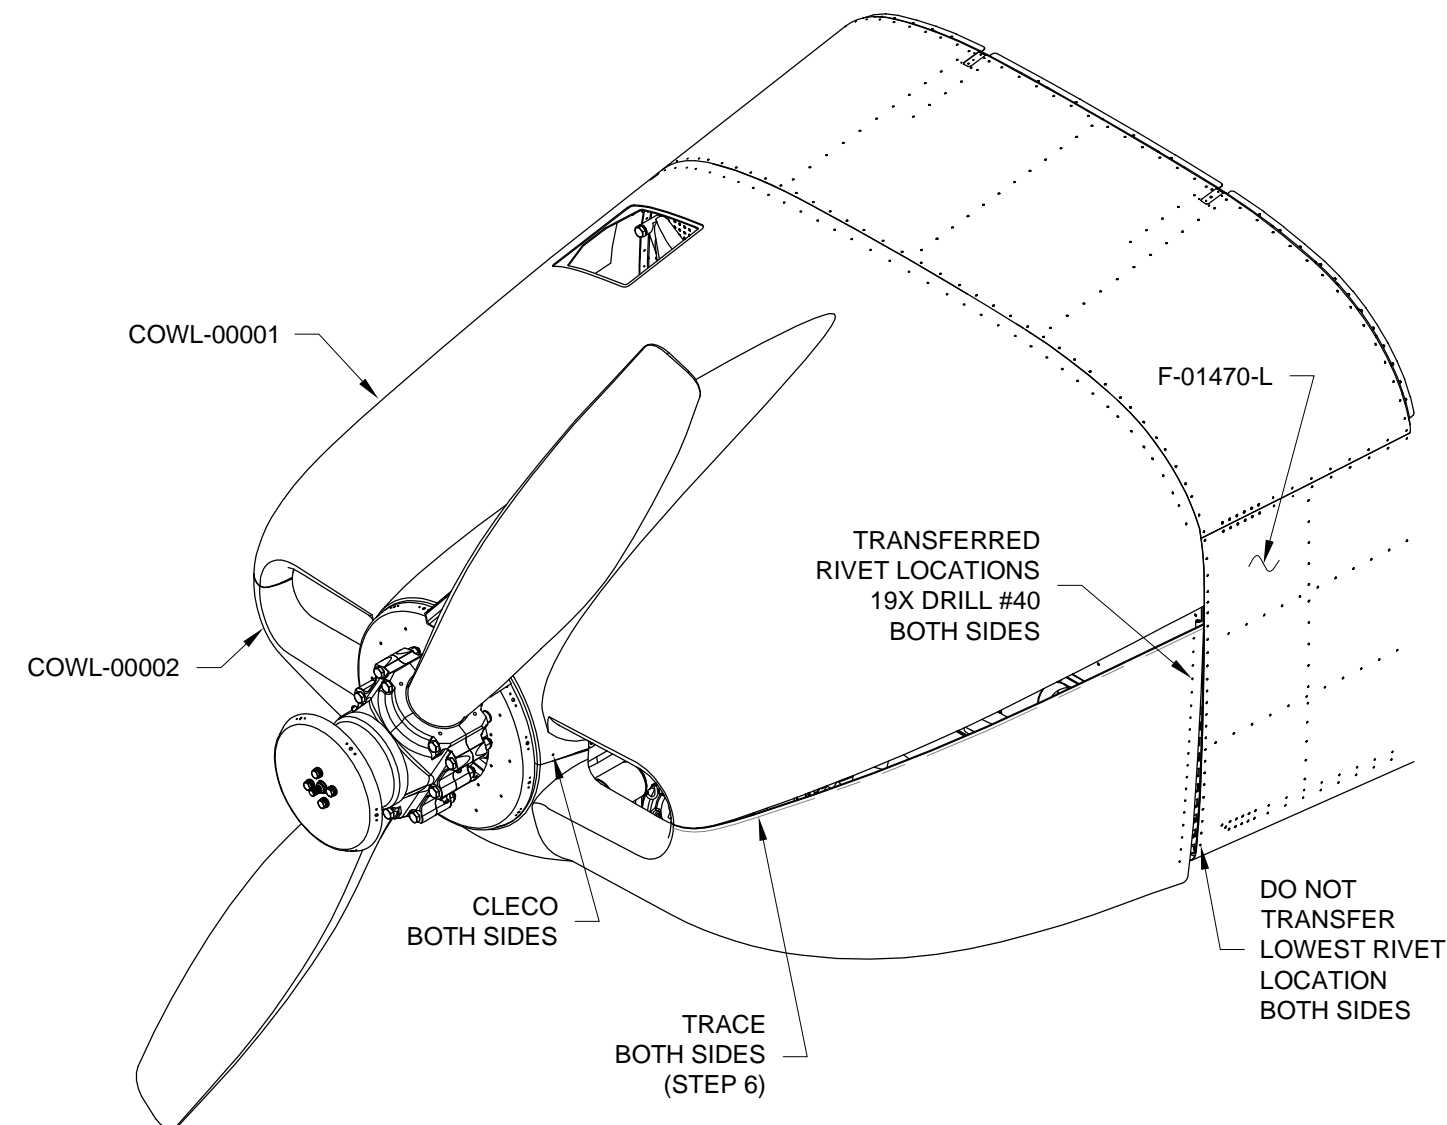

FIGURE 1: PREP BOTTOM COWL
Step 1: Firmly clamp the FF-01408B-L & -R Cowl Attach Piano Hinges to the inside of the COWL-00002 Bottom Cowl. See Figure 1.